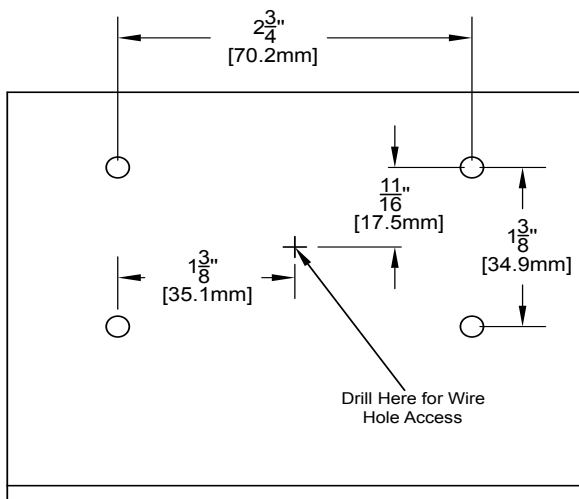

Figure 4.1 Preparation
1. Drill a hole in the center of the long side of the Floor Door Hold Bracket between the four (4) threaded M5 holes where the Magnetic Door Holder mounts. This hole must align directly with the slotted hole of the Door Holder back box for the connecting wires to pass through, and its size should match the conduit pipe (Maximum 1/2 Conduit Pipe Size). (Figures 4.1, 4.2 and 4.5)